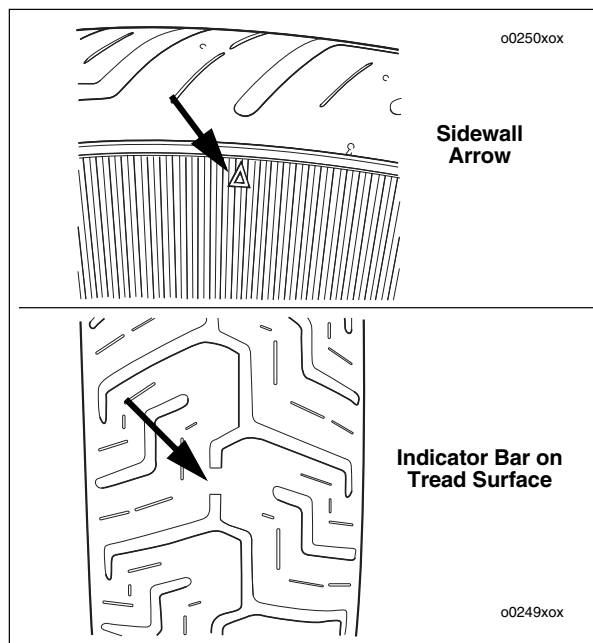

Figure 1-5. Tread Wear Indicator Bars
- a. Locate the arrows on the tire sidewalls. The arrows point to location of the tread wear indicator bars. See upper frame of Figure 1-5.
- b. Immediately replace tires if any tread wear indicator bar is on the tire tread surface, indicating that 1/32 inch (0.8 mm) or less of tire tread pattern remains. See lower frame of Figure 1-5.